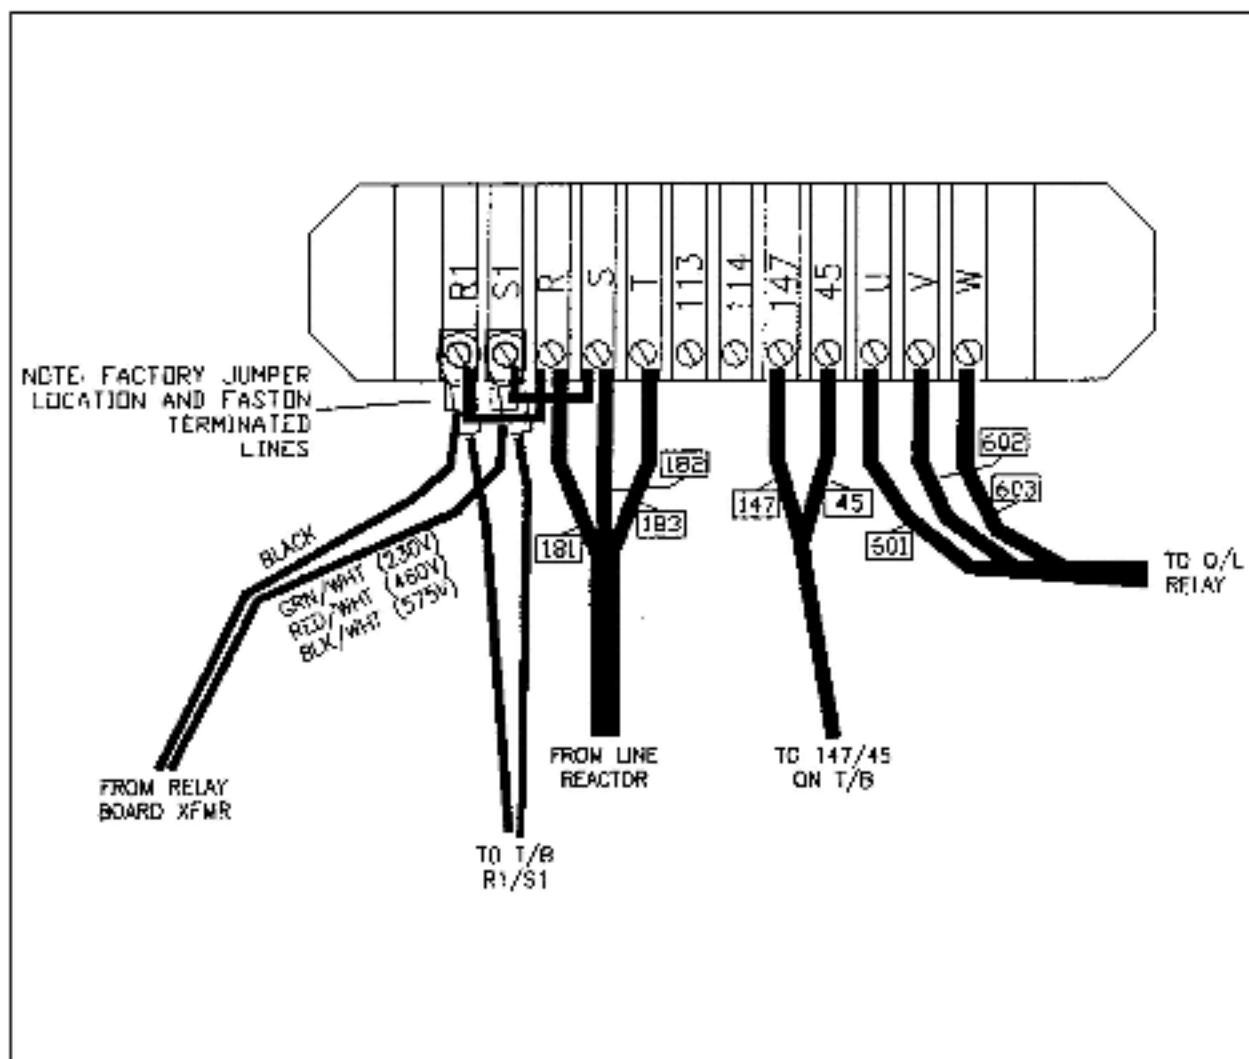

Figure 4. GP2000 Terminal Board Wiring Locations.
1. Connect line reactor lead wires marked 181, 182, and 183 to controller input terminals R, S, and T respectively. Refer to Figure 4 for wiring detail.
3. Using internal wire harness 601, 602, 603, connect controller output terminals U, V, and W to output terminals 601A, 602A, and 603A on the Expanded Cabinet terminal board. Refer to Figures 4 and 5 for wiring detail.
4. Using wire harness 811699-56R, connect terminals 45 and 147 on the controller to the corresponding Dynamic Braking terminals on the Expanded Cabinet terminal board. Refer to Figures 4 and 5 for wiring detail.
move the two factory-installed jumper wires between terminals R and R1 and S and S1 on the GP2000 controller. Refer to Figures 4 and 5 for wiring detail.